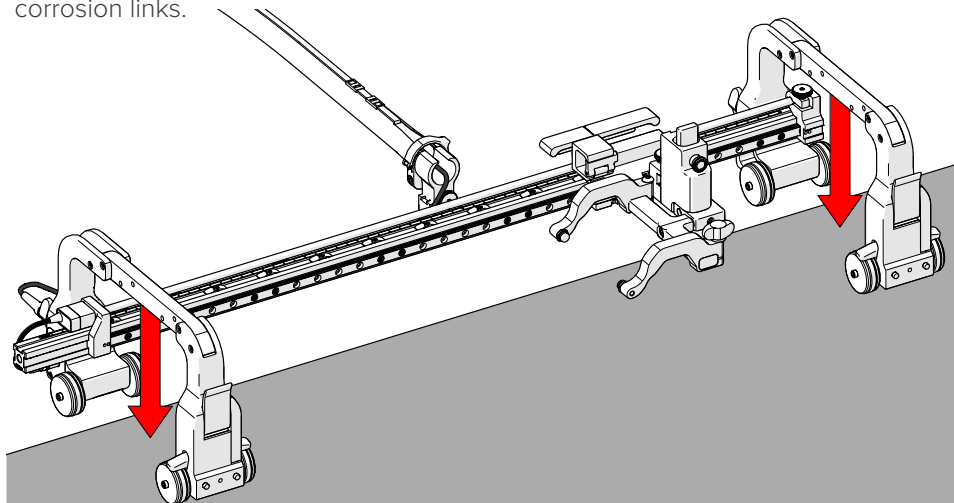

Fig. 76 - Place scanner on scan surface
5. Place the **STIX** on the scanning surface (Fig. 76).